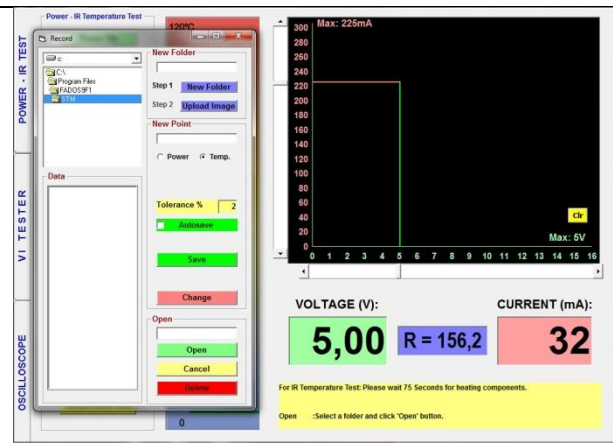

Figure 35: Opening the Recording Window (Step 4)
5. The temperature selection is clicked and the "Recording" Button is pushed to open the Recording Window. The name of the folder to be recorded in the New Folder is entered. (if already entered for the DC Voltage - Current Graph, the folder to be saved in is selected) The photo of the electronic circuit board is selected from Image Upload. The photo is uploaded to the software by clicking "open" button and is displayed on the screen (Figure 35 - Figure 36 - Figure 37)